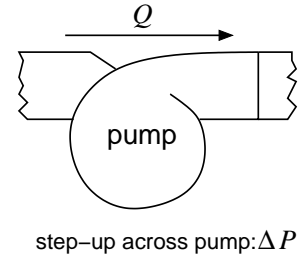

Figure 1: Step-up pump.
1. (10 pts) Long distance pipelines can have in-line pumps periodically spaced to step-up line pressures degraded by frictional losses. Consider a single such pump with a small approach and exit length of pipe and assume this pump does not change the flow rate, Q , in the line (Fig. 1). If the local losses due to pump friction and flow dissipation are $h_L = K V^2/2$, where V is the average flow velocity in the pipe and K is a unitless loss coefficient characteristic of this type of pump, show that the pump's power consumption is